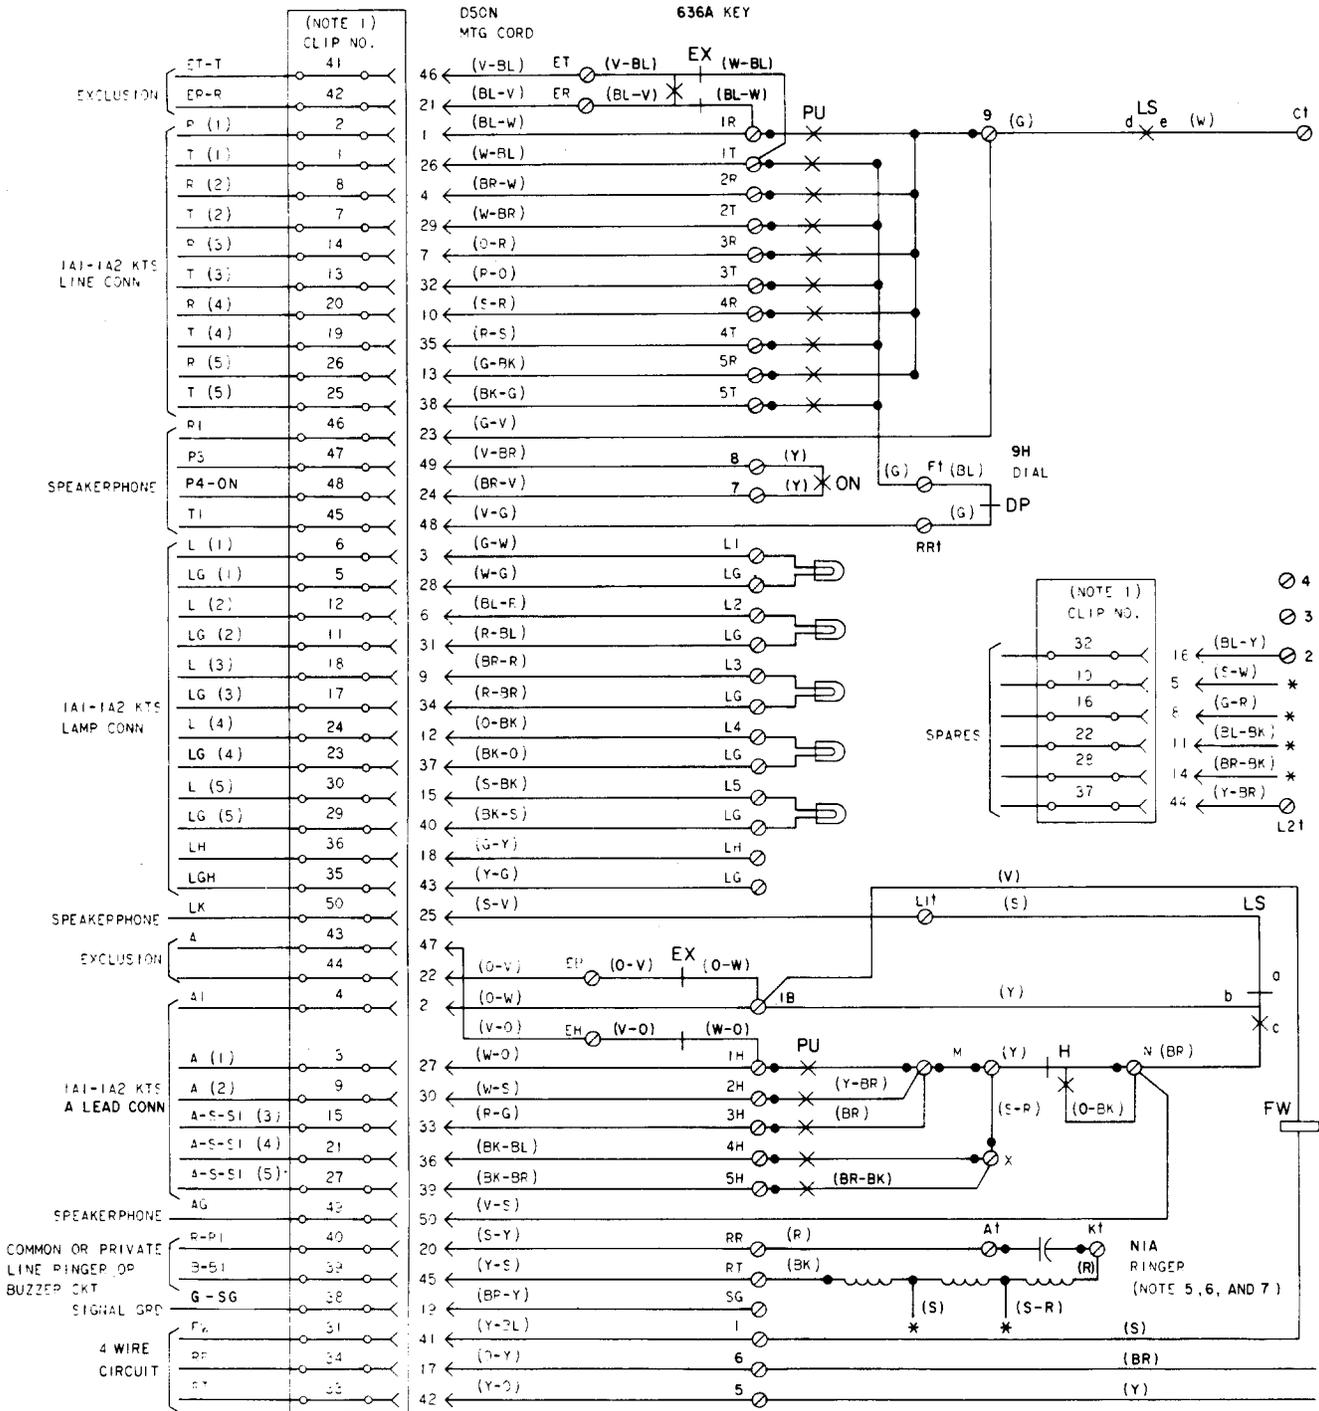

Fig. 1—568HR (MD) Telephone Set, Connections (Sheet 1 of 2)
3.01 These sets are furnished wired for use with 2- and 4-wire common battery telephone lines and 1A1, 1A2, and 6A key telephone systems. As furnished, exclusion is provided for 2-wire service on line 1 (for exclusion on other lines or 4-wire service see Note 3, Fig. 1 or 2). Exclusion key can also be used to cut off a ringer or buzzer in set.
3.03 The 4-wire relay (Fig. 1 or 2) switches the receiver from 2- to 4-wire circuitry.